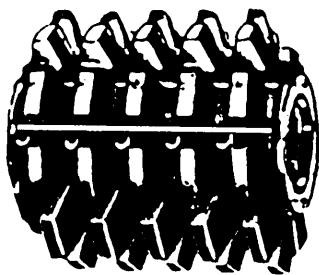

Figure 7-44.—Gear hob.
**GEAR HOB.**—The gear hob (fig. 7-44) is a formed milling cutter with teeth cut like threads on a screw.